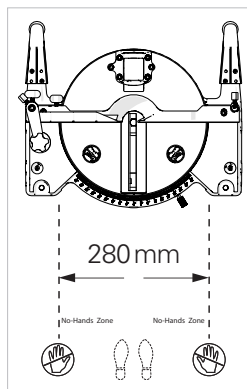

Fig. 10
3. Body and Hand position (Fig. 10)